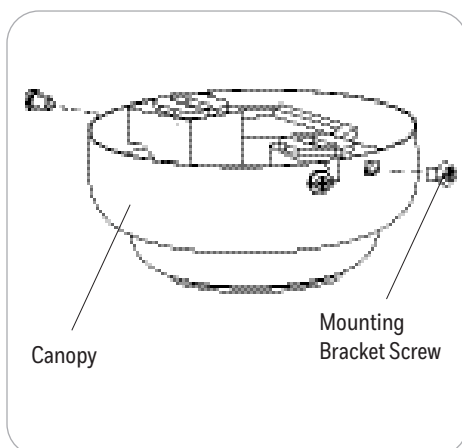

Figure 2.1
1. Loosen all four mounting bracket screws and completely remove the two screws from the round holes in the canopy. Then remove mounting bracket from the canopy and save the for screws for later (Figure 2.1).